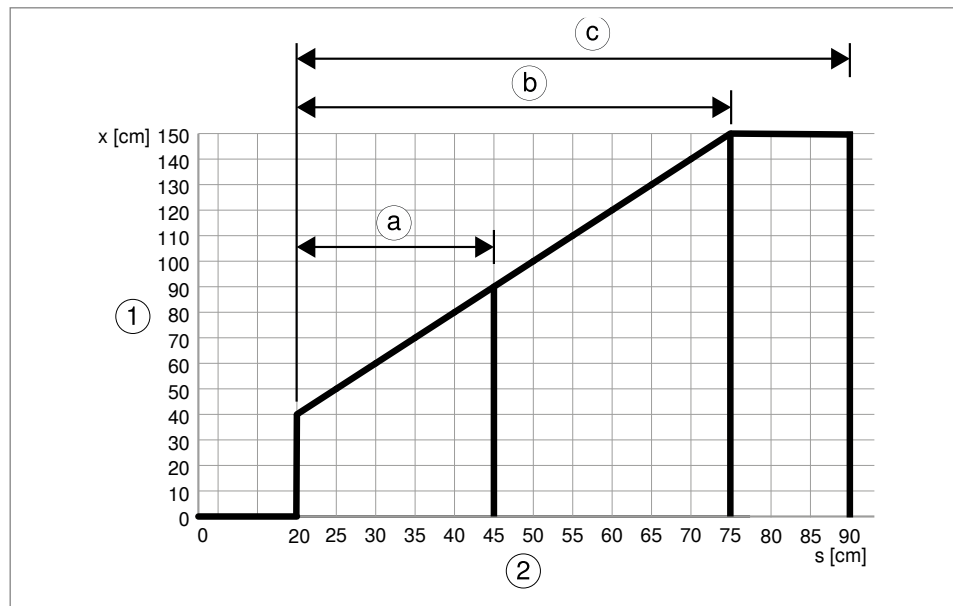

Fig. 53: Minimum required distance between the connection element and the potential connection terminal in air
- Connect the potential connection terminal to the equipotential bonding with $\geq 6 \text{ mm}^2$ Cu or a material with identical conductivity (see Fig. 53).